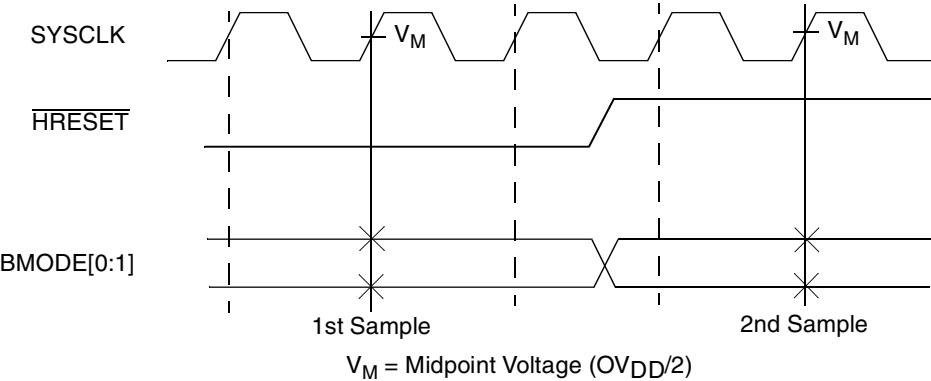

Figure 5.  $\overline{\text{BMODE}}[0:1]$  Input Sample Timing Diagram
- $\overline{BMODE}[0:1]$  and  $BVSEL[0:1]$  are mode select inputs.  $\overline{BMODE}[0:1]$  are sampled before and after  $\overline{HRESET}$  negation.  $BVSEL[0:1]$  are sampled before  $\overline{HRESET}$  negation. These parameters represent the input setup and hold times for each sample. These values are guaranteed by design and not tested.  $\overline{BMODE}[0:1]$  must remain stable after the second sample;  $BVSEL[0:1]$  must remain stable after the first (and only) sample. See Figure 5 for sample timing.
Figure 5 provides the  $\overline{\text{BMODE}}[0:1]$  input timing diagram for the MPC7448. These mode select inputs are sampled once before and once after  $\overline{\text{HRESET}}$  negation.